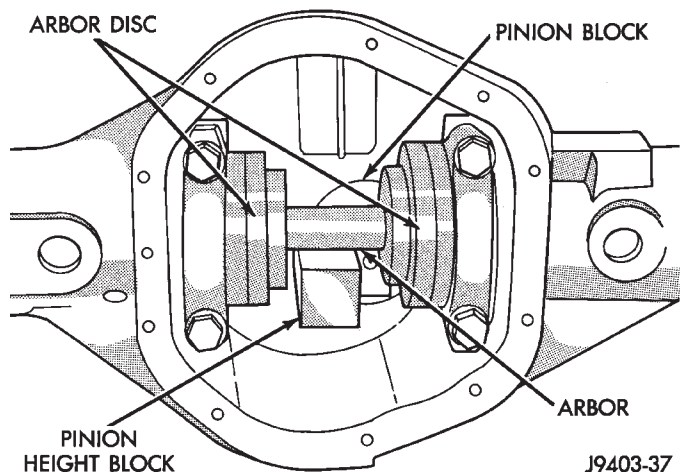

Fig. 47 Gauge Tools In Housing
(2) Place Arbor Disc 6732 on Arbor D-115-3 and position in the bearing cradles (Fig. 47). Install differential bearing caps on Arbor Discs and tighten caps snug only.